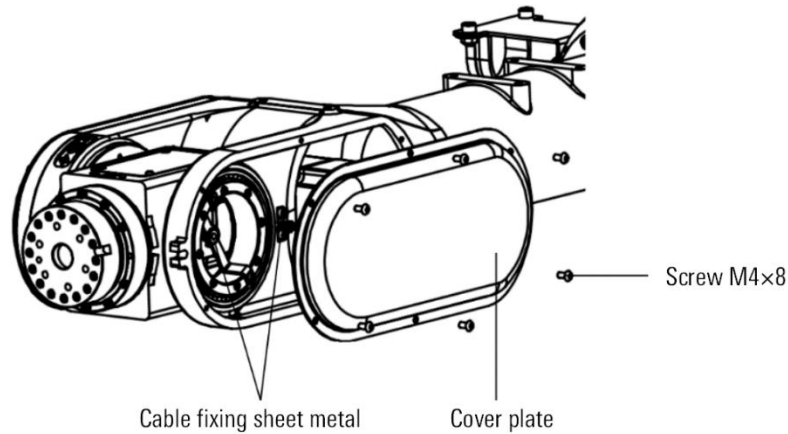

Figure 12-4 Inner cable of the wrist
- Step1. Remove the cover plate as shown in Figure 12-4.